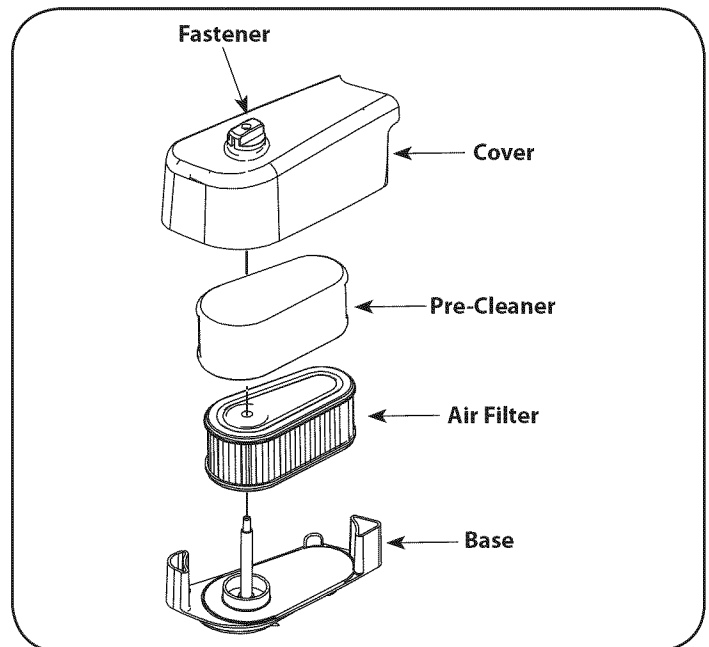

Figure 18
1. Remove the fastener and air cleaner cover. See Figure 18.